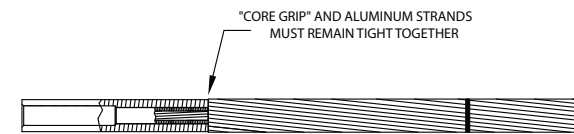

Fig. 4
4. Slide the "Half Sleeve" into the "Core Grip." Note identification on "Core Grip" for proper end to insert "Half Sleeve." Ensure "Core Grip" is tight against the aluminum strands as shown in Fig. 4.